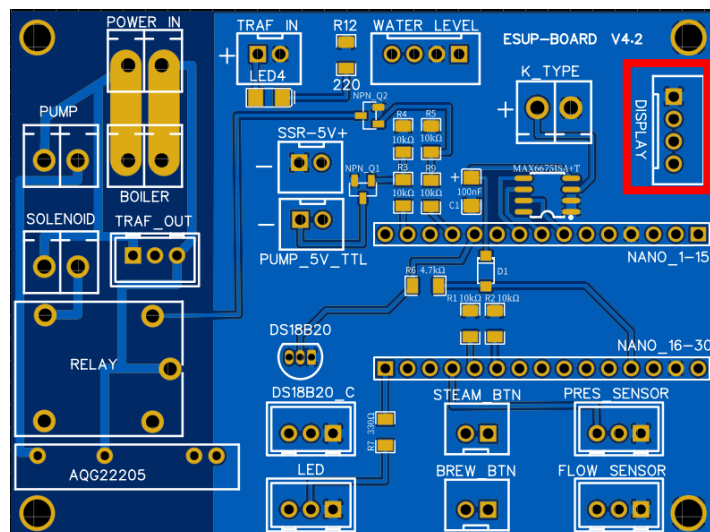

Fig. 5.6
- Connect the cable to the main board (fig. 5.6)